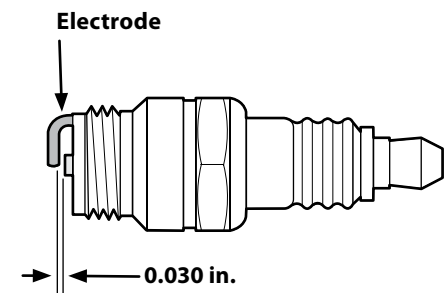

Figure 6-4
3. Measure the plug gap with a feeler gauge. Correct as necessary by bending side electrode. See Figure 6-4. The gap should be set to 0.030 in.